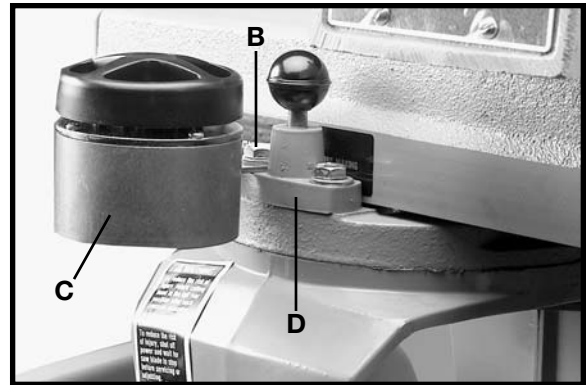

Fig. 29
4. Assemble reel (C) Fig. 29, to yoke assembly (D) and fasten with screw (B), which was removed in **STEP 3**.